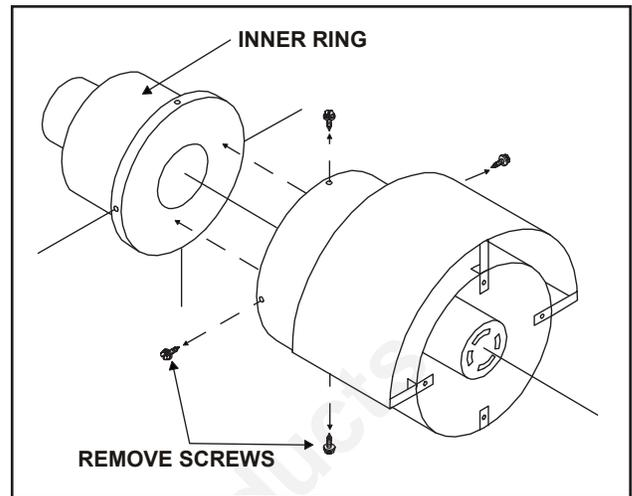

Figure 12.
- Remove the sheetmetal screws from the 10-1/2 in. diameter pipe and remove the inner ring from inside the collar. See Figure 12.